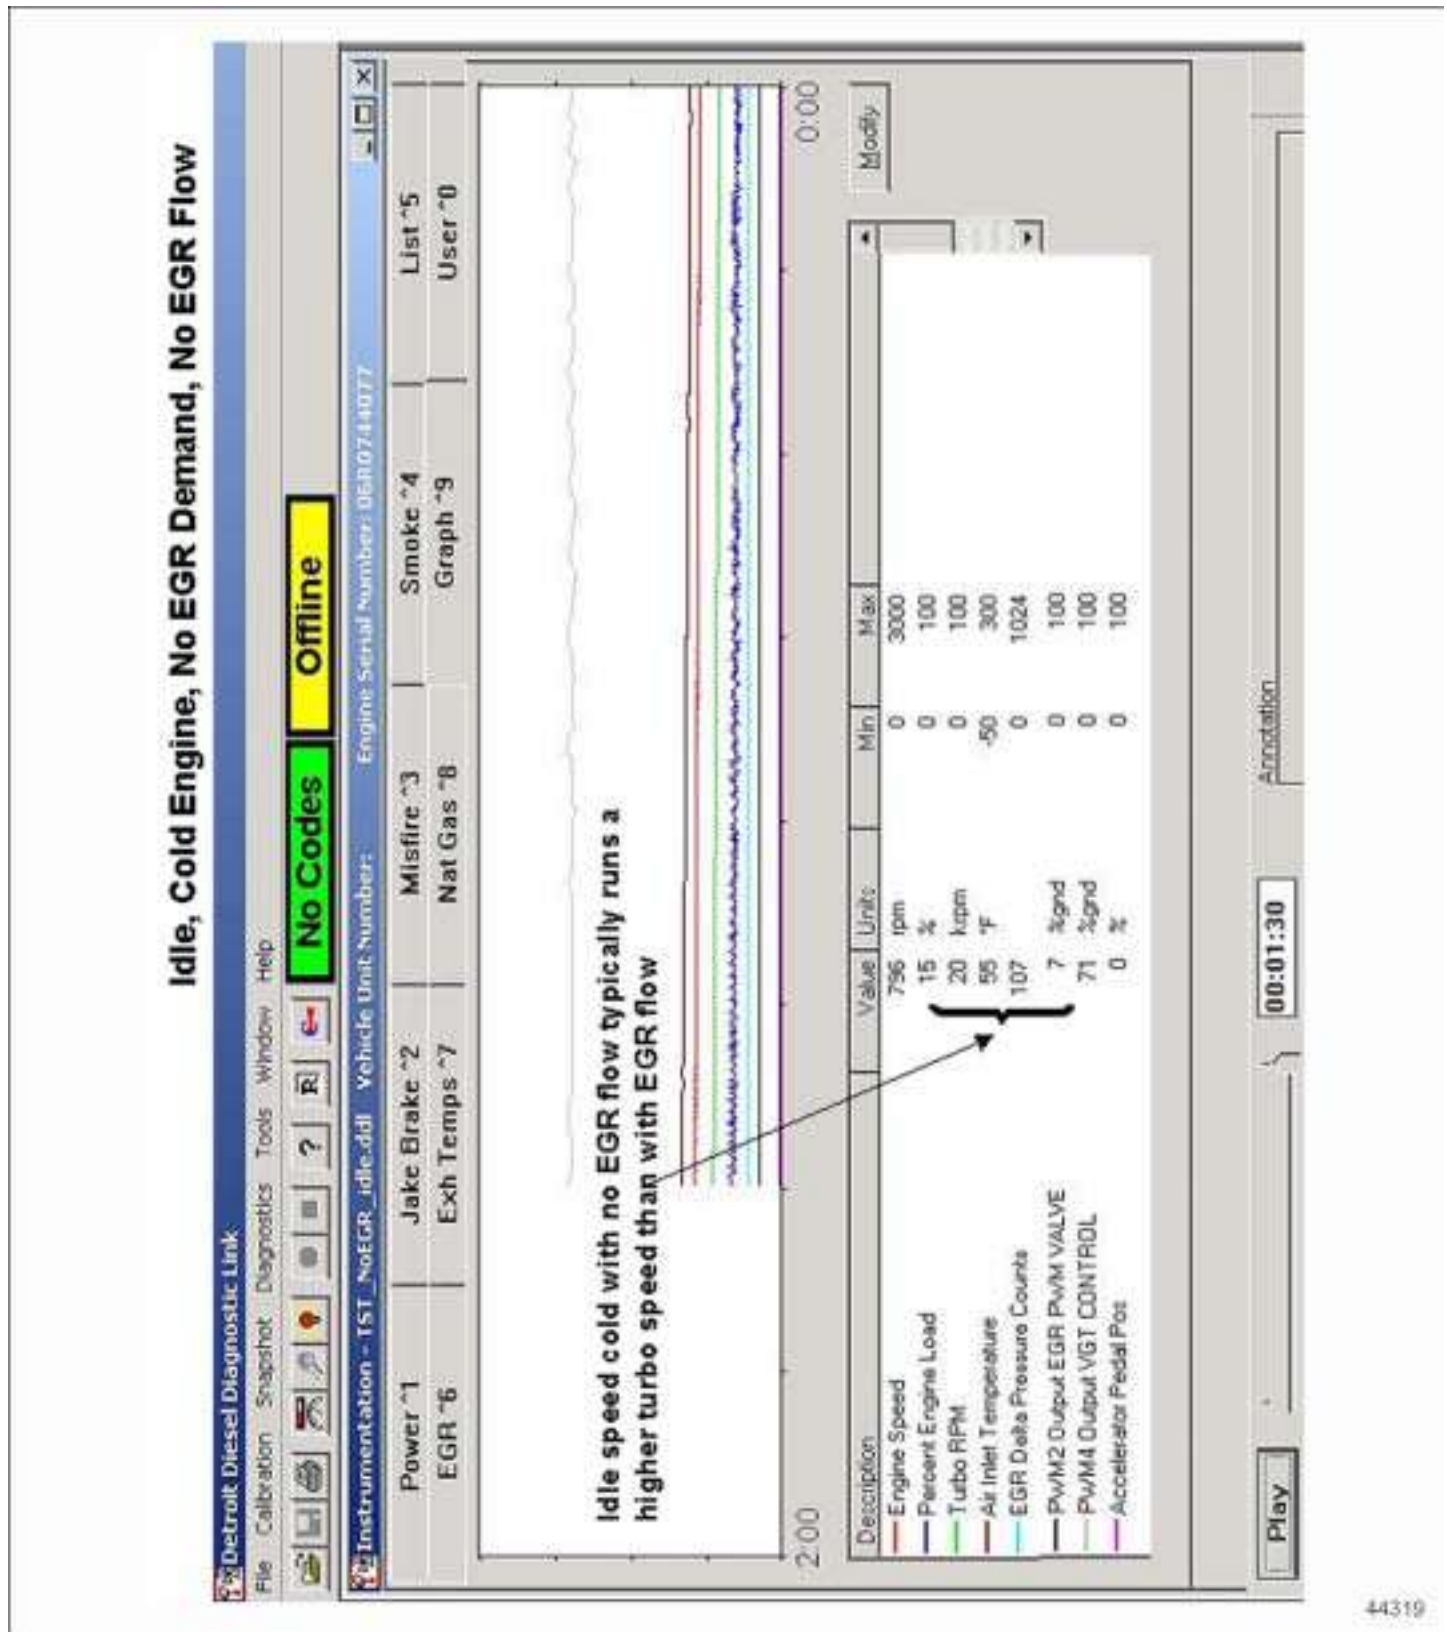

Figure 7-2 Idle — Cold Engine — No EGR Demand — No EGR Flow
- ☐ Cold Idle operation without EGR flow. See Figure 7-2.